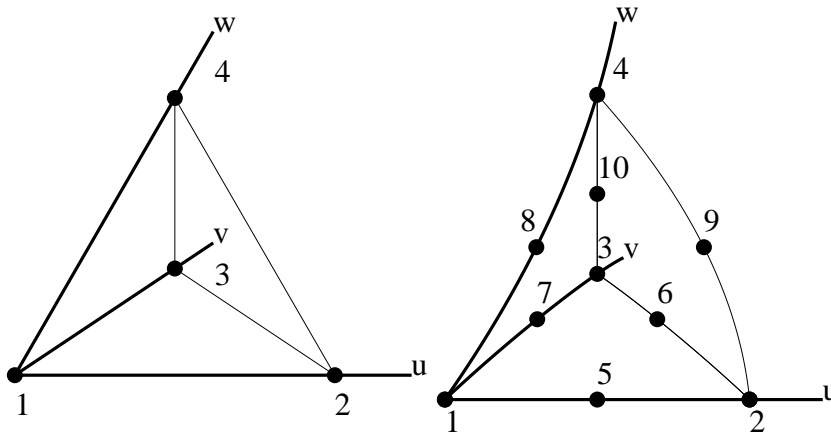

Figure I.3: The 4 (504) and 10 (510) node tetrahedron elements.
- linear (504) and quadratic (510) tetrahedrons (4 and 10 nodal points, Figure I.3),